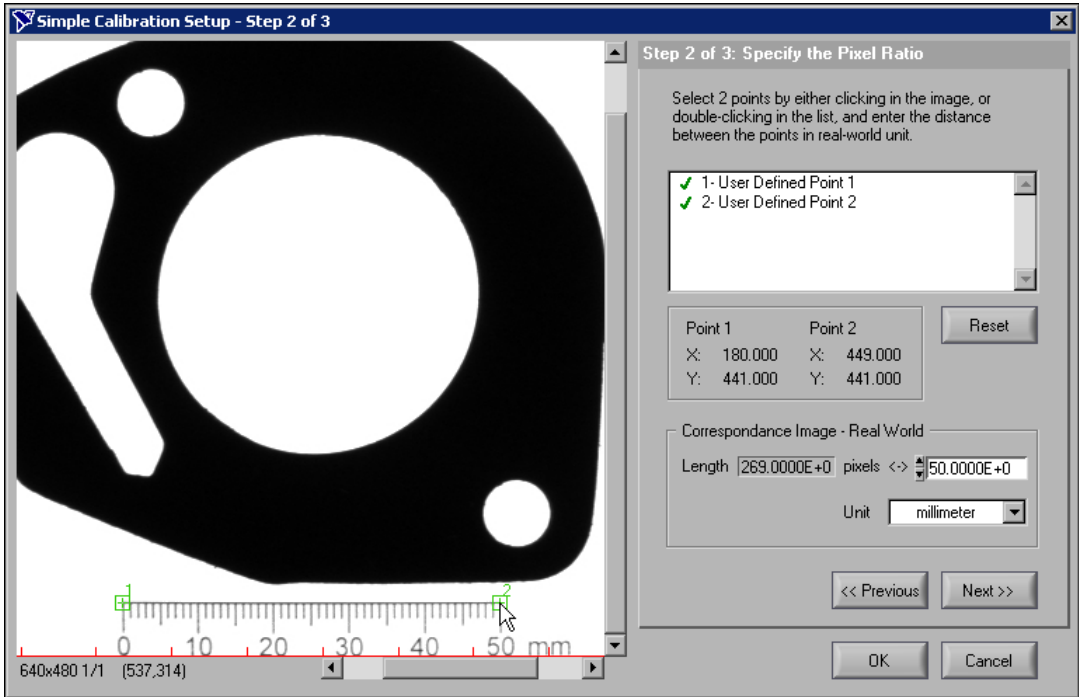

Figure 3-1. Specifying the Pixel Ratio
6. In **Step 2 of 3**, carefully click the 0 mm and 50 mm markings on the ruler in the image, as shown in Figure 3-1.